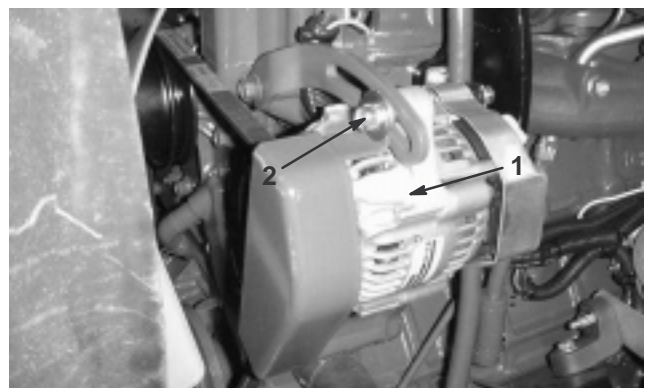

Figure 36
Check the condition and tension of the belts (Fig. 36) after every 100 operating hours.
2. If the deflection is not 3/8 in. (10 mm), loosen the alternator mounting bolts (Fig. 36). Increase or decrease the alternator belt tension and tighten the bolts. Check the deflection of the belt again to ensure that the tension is correct.